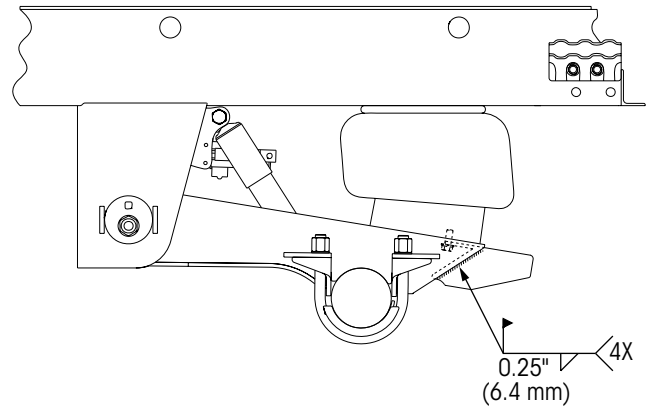

Figure 73: Rear wide beam extension weld specifications
9. Referring to Figure 73, the applicable installation drawing¹ and the weld parameters on APPENDIX A: WELDING DETAILS on page 44; weld the extension to the suspension beam as indicated.